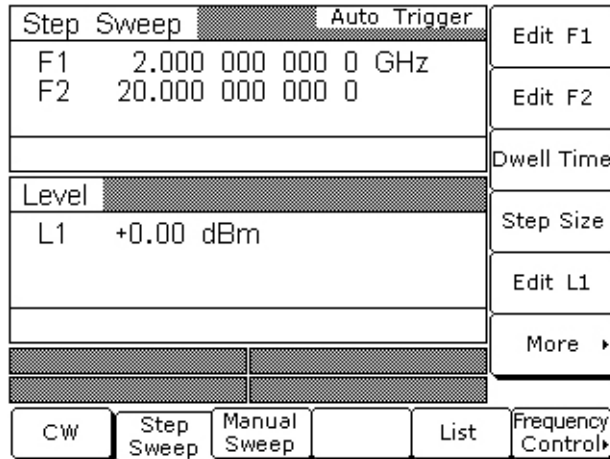

Figure 5-5. Step Sweep Menu
- b. Press **Step Sweep** to place the unit in the step sweep frequency mode and display the Step Sweep menu (Figure 5-5).